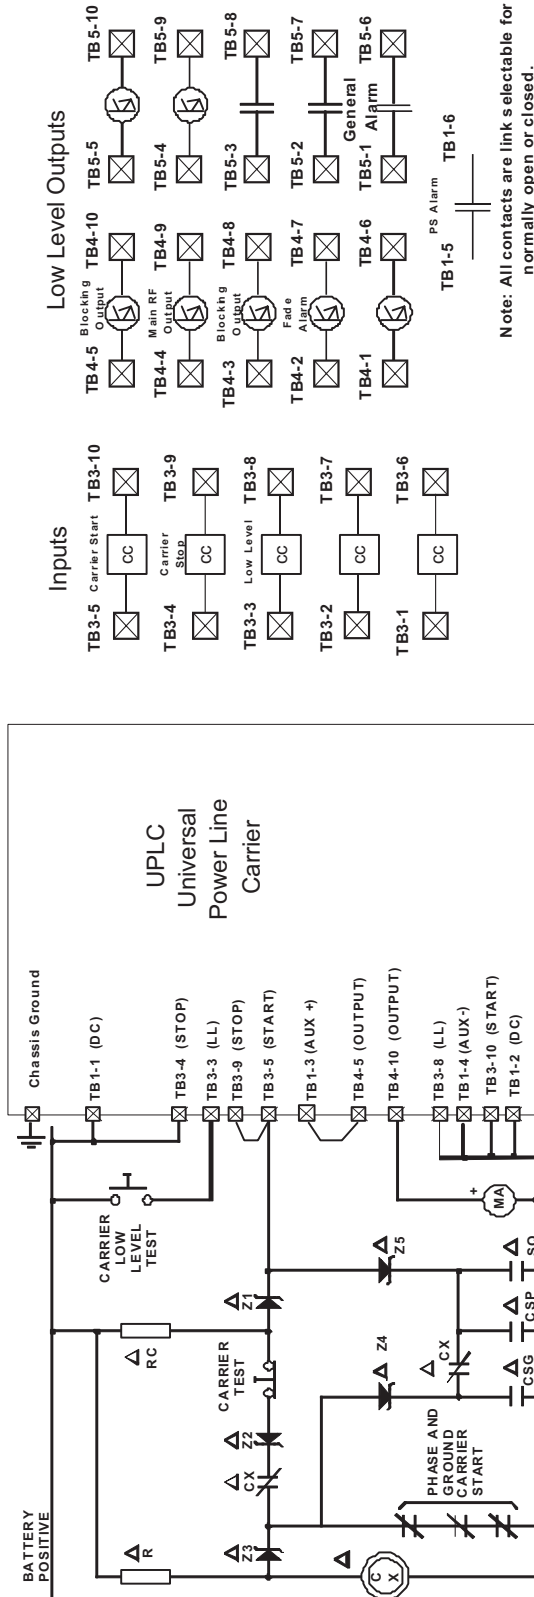

Figure 3-27. UPLC™ Programmed as ON/OFF (AM) PLC Channel (Standard Configuration).
|| A sample schematic for the KA-4 relaying system is shown in Figure 3-26. A sample schematic for a basic microprocessor relay system is shown in Figure 3-27.||
The basic operation of the system is shown in Figure 3-27. FD1 and FD2 at both terminals operate for an internal fault (FI). The square wave inputs to the AND from the local currents are essentially in phase with those transmitted via the channel from the remote terminal. The local square wave turns the carrier “ON” and “OFF” to provide the square wave receiver output for the remote terminal.